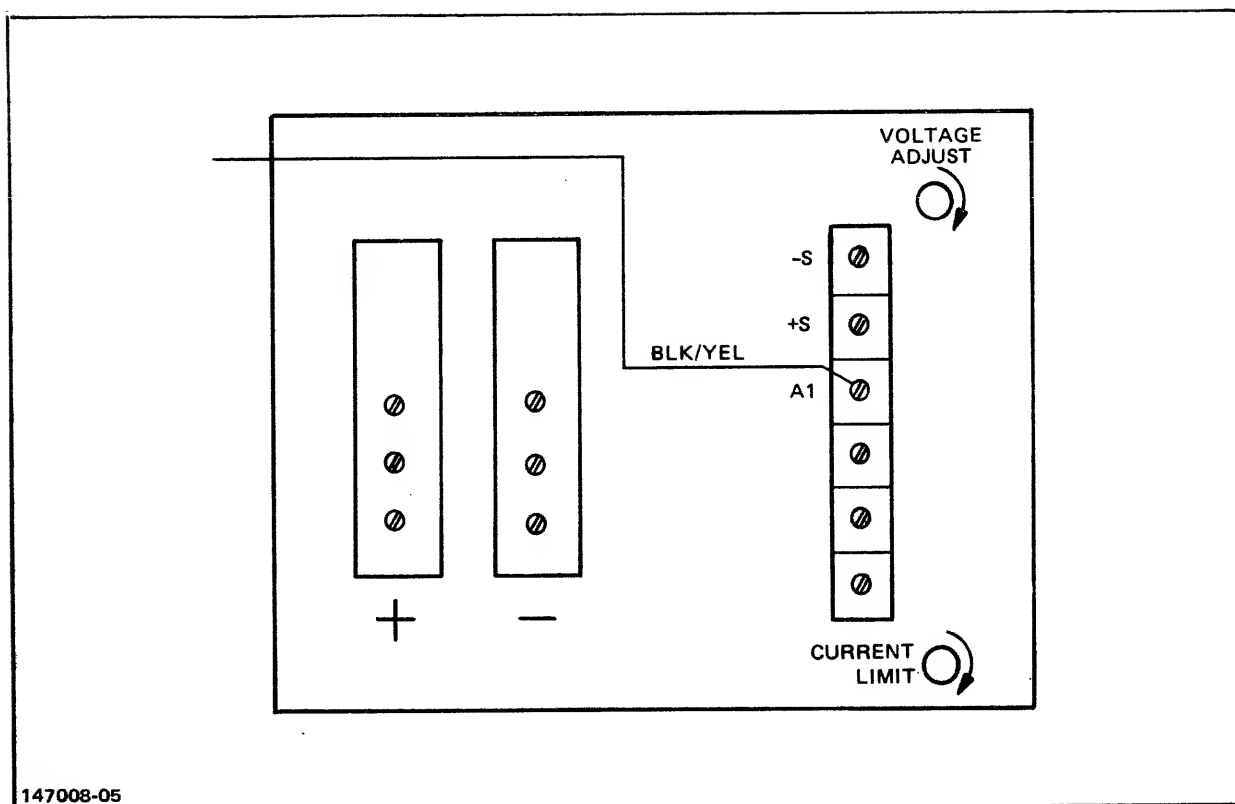

Figure 2-6. Power Supply Connection
7. At CPU Bay card cage No. 4, locate the black and yellow wire coiled and connected to a ground terminal. Disconnect this wire, route it through the cabinet side panel, and connect it to terminal A1 of the I/O Bay 5-volt power supply. (See figure 2-6.)